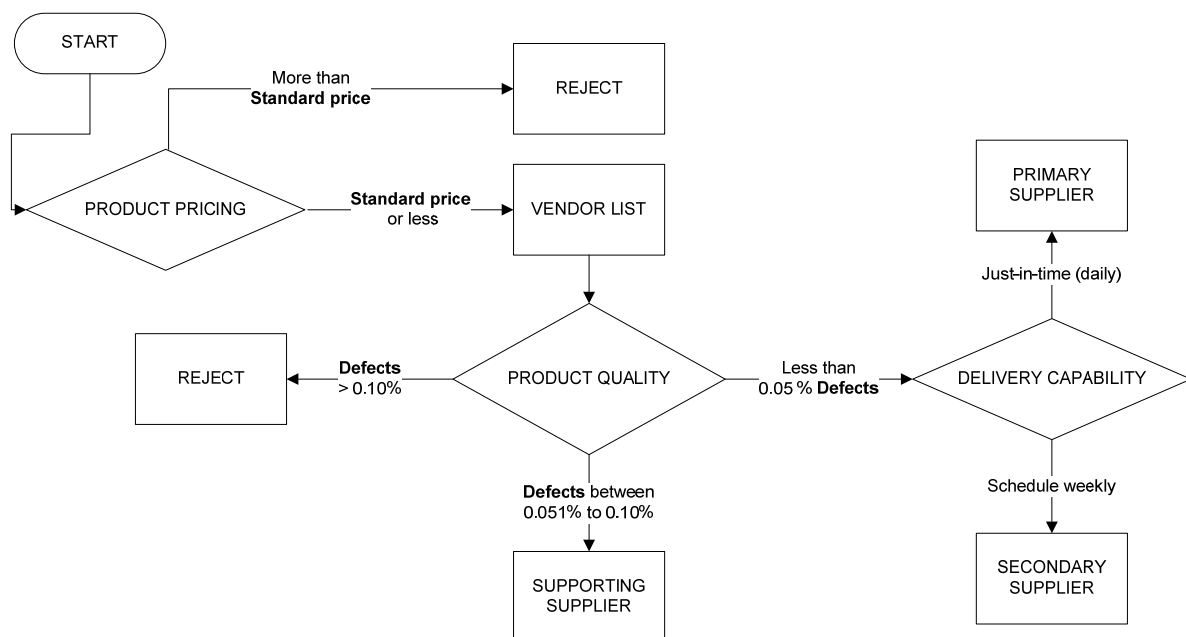

Figure Q1[a]
- Q1. [a]** A purchasing department manager intends to build a rule-based expert system to classify the company global suppliers based on product pricing, product quality and delivery capability. The decision chart is provided in the Figure Q1[a]. Construct the rule-based expert system for this application. Each rule carries a maximum of two antecedents.